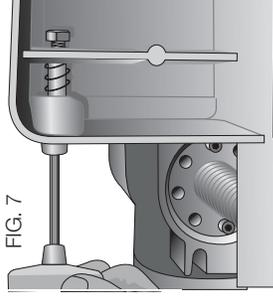

FIG. 7
- On the underside of the planer, use a wrench to hold the nut in place while turning the stepped bolt into it. The T-wrench on your planer can be used to turn the stepped bolt until it is fully secured (Fig. 7).